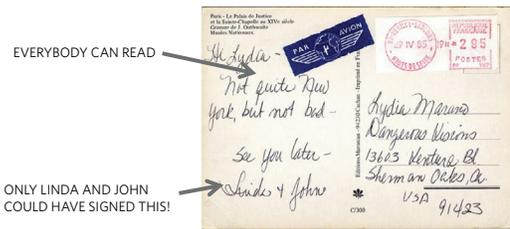

Figure 2. Authenticity proves that a command came from a trusted source.
**Authenticity:** Proves the origin of a message. A command is authentic if you can prove that it came from a trusted source. Sensor data is authentic if you know it came from one of the sensors you manufactured. In the real world, we 'prove' authenticity with a signature on a document (Figure 2). Of course, in the real world, your signature can be forged by someone with time and training—in the embedded world your signature can be forged by someone who has stolen your secret keys.